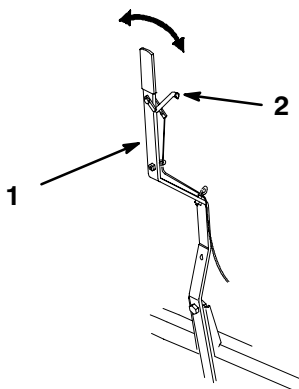

Figure 14
You can turn the blade from side to side, in 5 positions. You control the angle using the control handle (Fig. 14).
1. Squeeze the release lever toward the handle (Fig. 14).